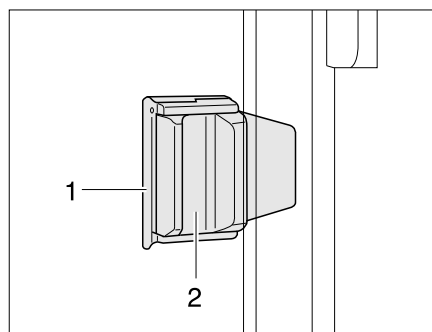

Fig. 64 Sliding window with slide lock
- Pull out the lock (Fig. 64,1).
- Press handle (Fig. 64,2) and push it forward or backward at the same time.
- Turn the locking knob (Fig. 64,1) into the vertical position.